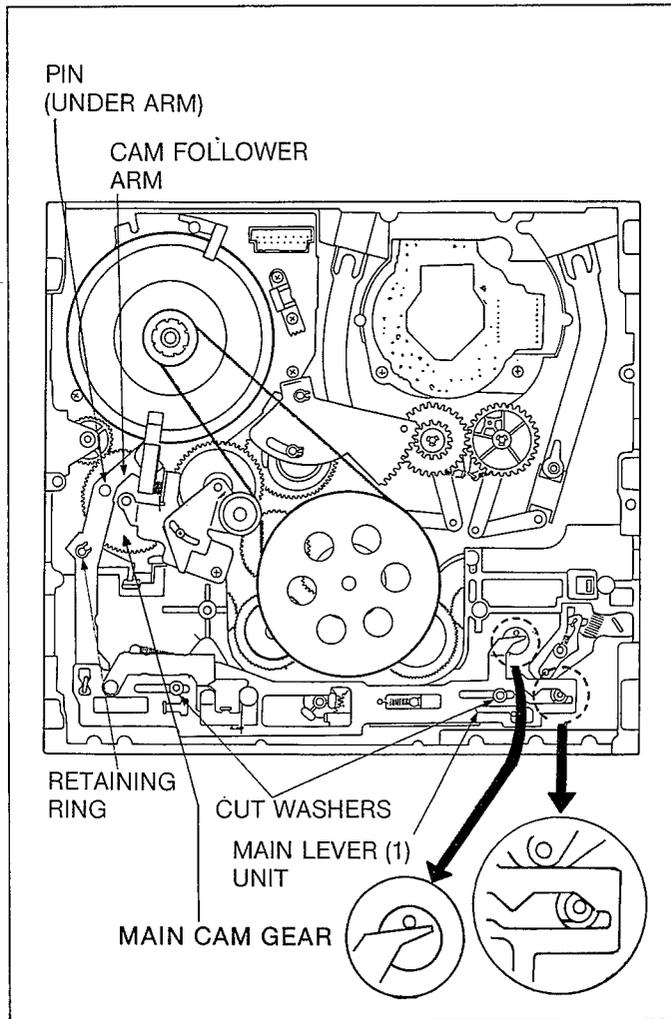

Fig. A8
**2-4-5. ASSEMBLY PROCEDURES OF MAIN LEVER (1) UNIT AND CAM FOLLOWER ARM UNIT**
2. Install the Main Lever (1) Unit and then insert the cut washers as shown in Fig. A8.